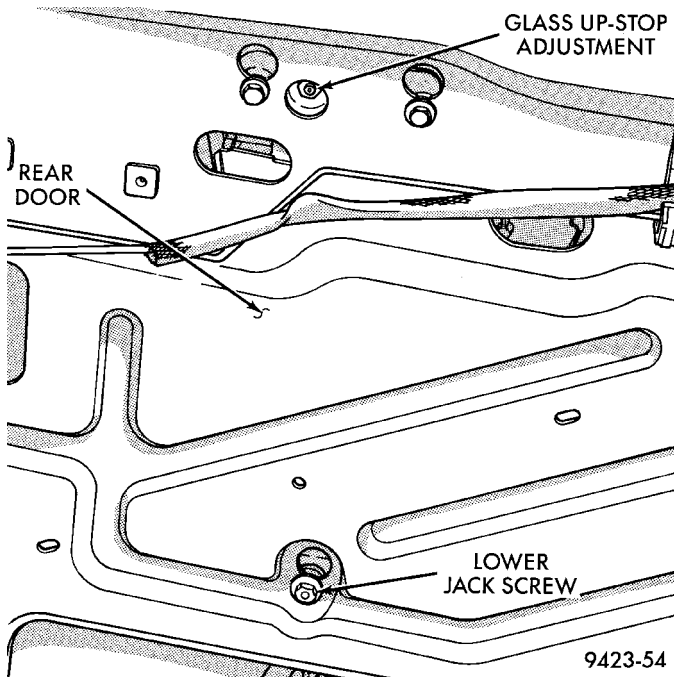

Fig. 89 Rear Door Glass Adjustment—Typical
- (1) Remove door trim panel.
- (2) Remove water shield as necessary to gain access to adjusters.
- (3) Using a Snap-on® flare-nut socket (FRXM10), loosen up-stop eccentric jamb-nut (Fig. 89).
- (4) Using a suitable hex-wrench, rotate up-stop eccentric to achieve proper glass height.
(3) Using a Snap-on® flare-nut socket (FRXM10), loosen the lower jack-screw jamb-nuts (Fig. 89).
(4) Using a suitable hex-wrench, rotate jack-screws to achieve proper tension at the top of the glass.
(5) Adjust glass so that a piece of paper can be pulled between the glass and weatherstrip with some tension.